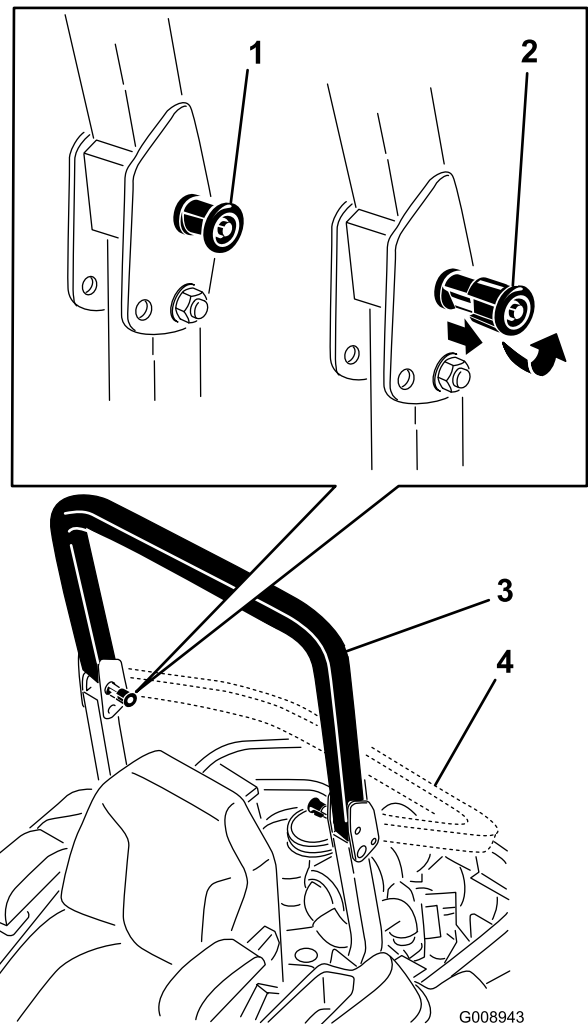

Figure 8
2. Pull both knobs out and rotate them 90° so they are not engaged (Figure 8).
3. Lower the roll bar to the down position (Figure 8).
4. To raise the roll bar, raise the roll bar to the operate position, rotate the knobs so they move partially into the grooves (Figure 8).
5. Raise the roll bar to the full upright position while pushing on the upper roll bar and the pins will snap into position when the holes align with the pins (Figure 8). Push on the roll bar and ensure that both pins are engaged.